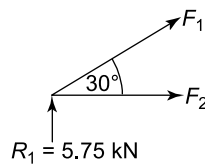

Figure 7.35
Consider joint (1); see Figure 7.35.